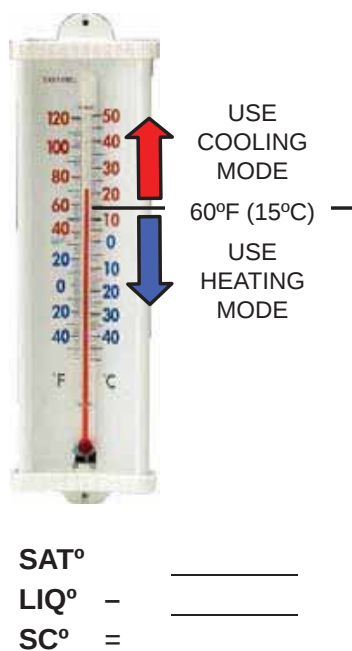

Figure 51. Using R454B Subcooling Method - High Speed (High Capacity)
- 4 - Verify the charge using the subcooling method described in **Figure 51**.